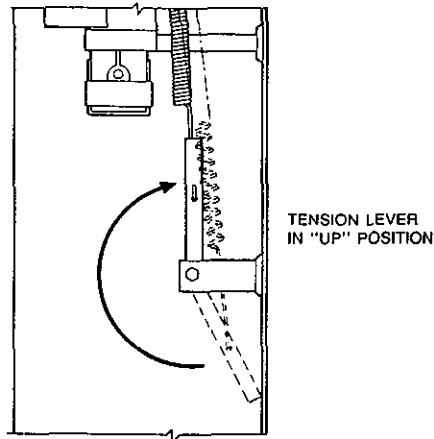

FIGURE 53
13. Make certain tension lever is in the "UP" position. See Figure 53.